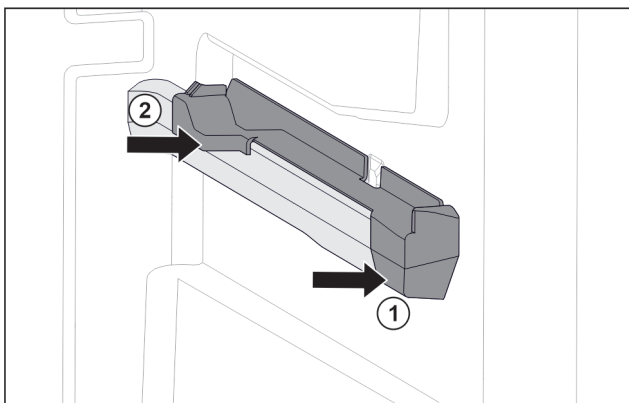

Fig. 151 Attachment on the right moulded rib
- ▶ Position attachment on moulded rib at the front. Fig. 151 (1)
- ▶ Press on attachment at the back. Fig. 151 (2)